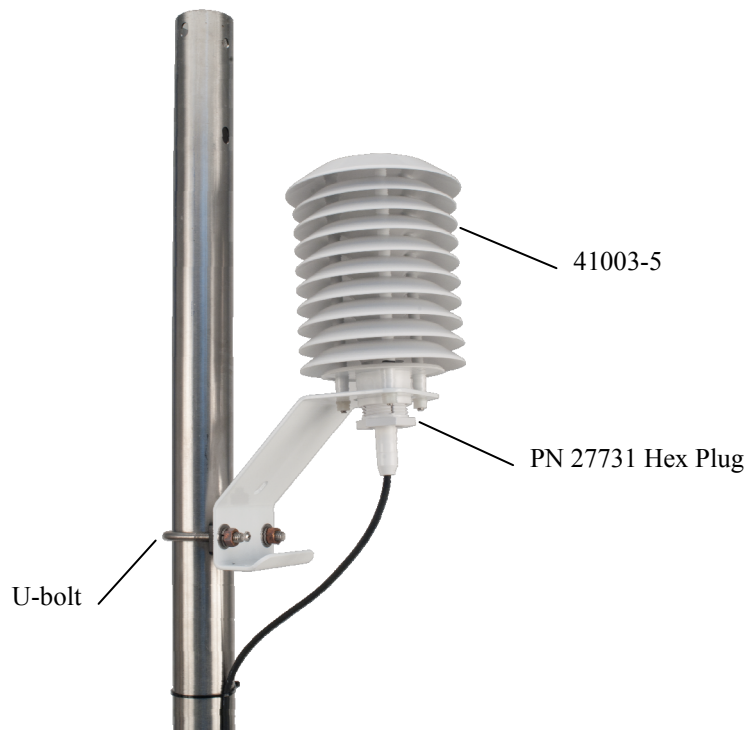

FIGURE 4-1. HC2S3 and 41003-5 Radiation Shield on a tripod mast
2. Attach the radiation shield to the tripod mast, crossarm, or tower leg using the supplied U-bolt. See FIGURE 4-1 and FIGURE 4-2 for examples of shield mounting.